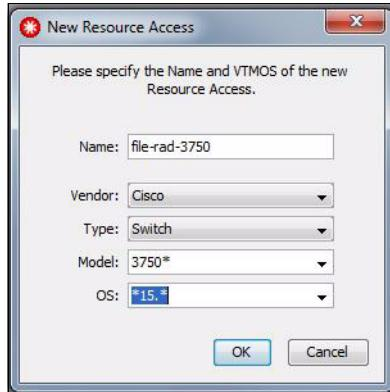

Figure 4-5 Resource Access Document VTMOS details
3. Create a RAD with the VTMOS of the target device. The VTMOS that was used in this case was Cisco Switch 3750* *15.* , as shown in Figure 4-5.